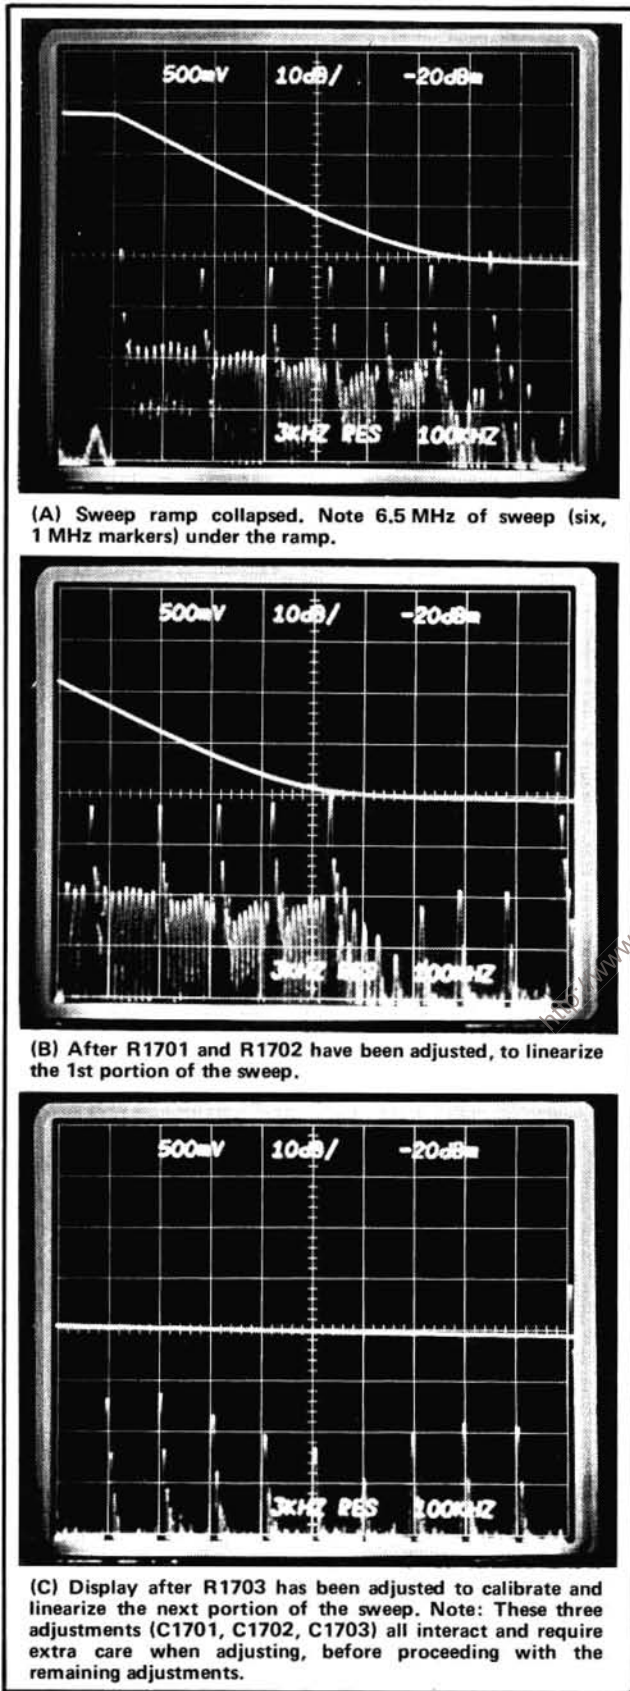

Fig. 4-10. Series of pictures to illustrate the first few steps in adjusting the sweep shaper ramp to the 2nd LO.
a. Start the procedure by adjusting R1701 and R1702 to linearize the 1st few markers at the low voltage end of the ramp (right edge of the display, see Fig. 4-10). Do not be too concerned if the 1st few markers are not calibrated to 100 kHz/Div.